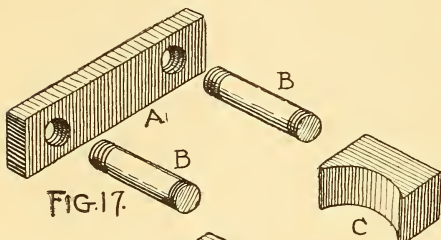

FIG. 17.
From three-quarter-inch round iron cut two cores, each three inches and a half long, and thread them at both ends, as shown at B B in Fig. 17. From band-iron five-eighths of an inch thick and one inch and a half wide cut a yoke (A), and bore the indicated holes two inches and three-quarters apart, centre to centre. These should be threaded so that the cores (B B) will screw into them. From a bar of iron cut off two blocks one inch and a half by one inch and a half by two inches for the lugs. Now, with a hack-saw and a half-round file, cut out one side of each lug, as shown at C. These lugs are to be bored and threaded at one end, so that they can be screwed on the lower ends of the cores (C C).
The parts shown in Fig. 17, when screwed together, will give you a field-magnet two by one and a half by five and three-quarter inches high, and will appear as shown in Fig.